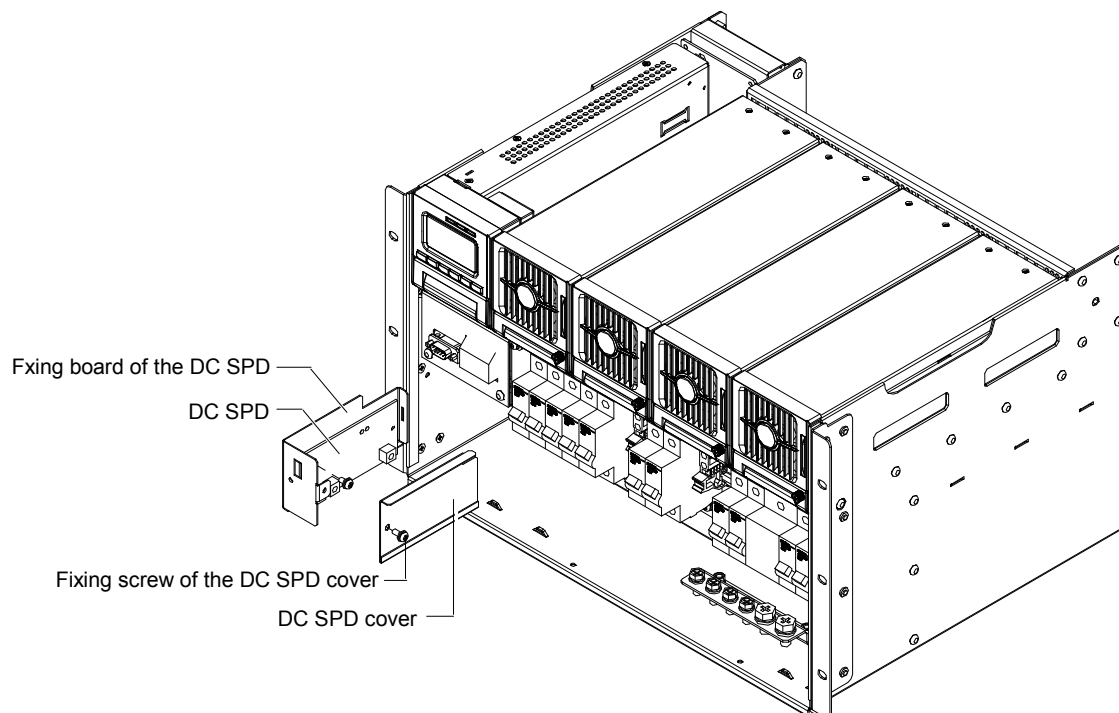

Figure 5-14 Removing the DC SPD
Step 4: Remove the two fixing screws that are used to connect DC SPD and fixing board. Disconnect all the cables that are connected to the DC SPD and take off the DC SPD, as shown in Figure 5-14.